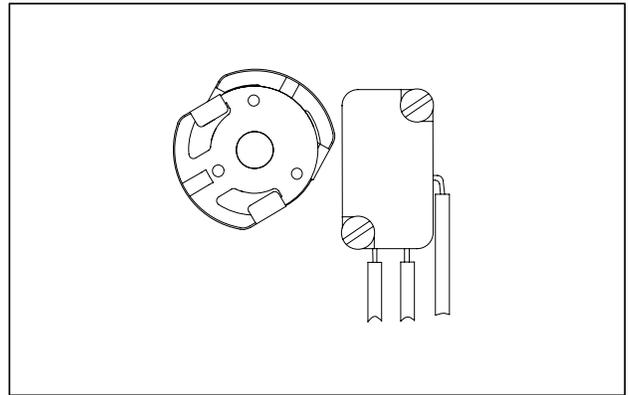

Fig. 8 Cams Set for Normally Open Function
I. For Normally Open Function, Fig. 8